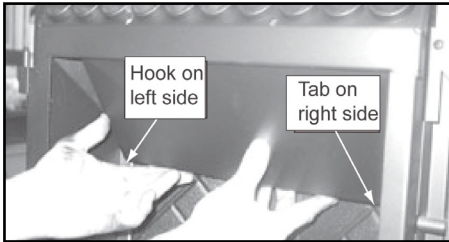
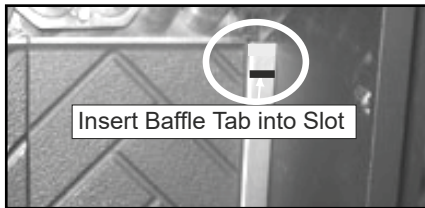
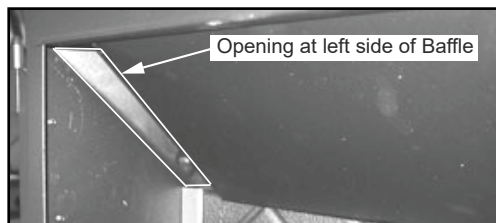

Figure 26.1
Figure 26.2
Figure 26.3
2. The top baffle has a hook on the bottom left side that rests on the top lip of the cast brick. There is a tab on the bottom right side that hooks into the side bracket. Remove the top baffle by first pulling the baffle forward until back edge drops down. Then slide baffle back until the front edge clears the shelf that it had been resting on (**Figure 26.1, Figure 26.2 and Figure 26.3**).